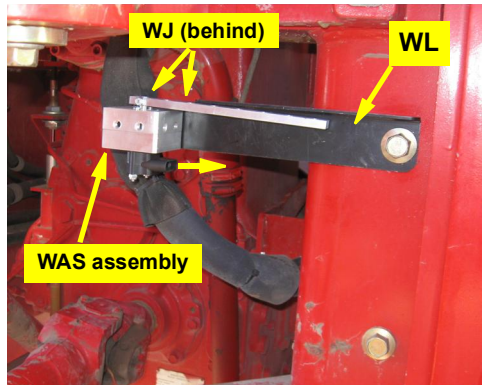

Figure 2d: Installed WAS assembly
- d. Using hardware **WJ** (not shown) attach the WAS assembly from steps 1a and 1b to the bracket **WL**. Face the wire connector outwards, away from the tractor (Figure 2d).